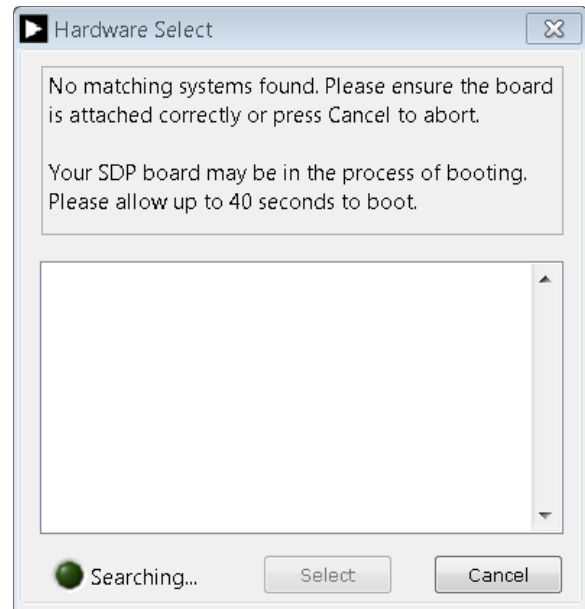
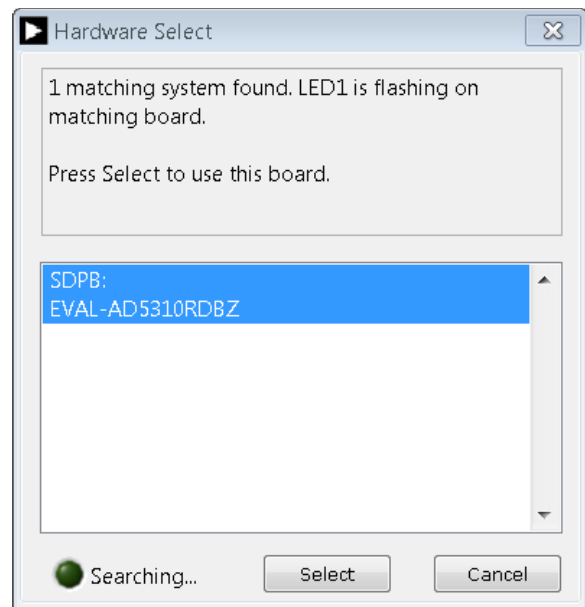

Figure 2. Connectivity Error
Figure 3. **Hardware Select** window
4. If the SDP-B or SDP-S board is not connected to the USB port when the software is launched, a connectivity error displays (see Figure 2). Connect the evaluation board to the USB port of the PC and wait a few seconds. When the SDP-B or SDP-S board is detected, the display is updated (see Figure 3).